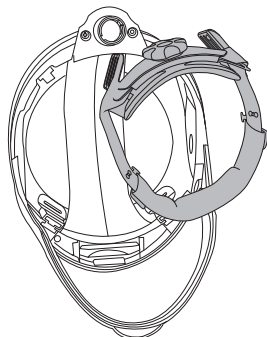

fig.3a
- Remove the headgear assembly (See fig.3a).